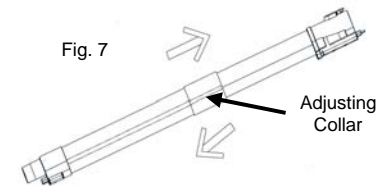

Fig. 7
1. Holding the telescopic tube adjusting collar, pull down to extend. (Fig. 7)